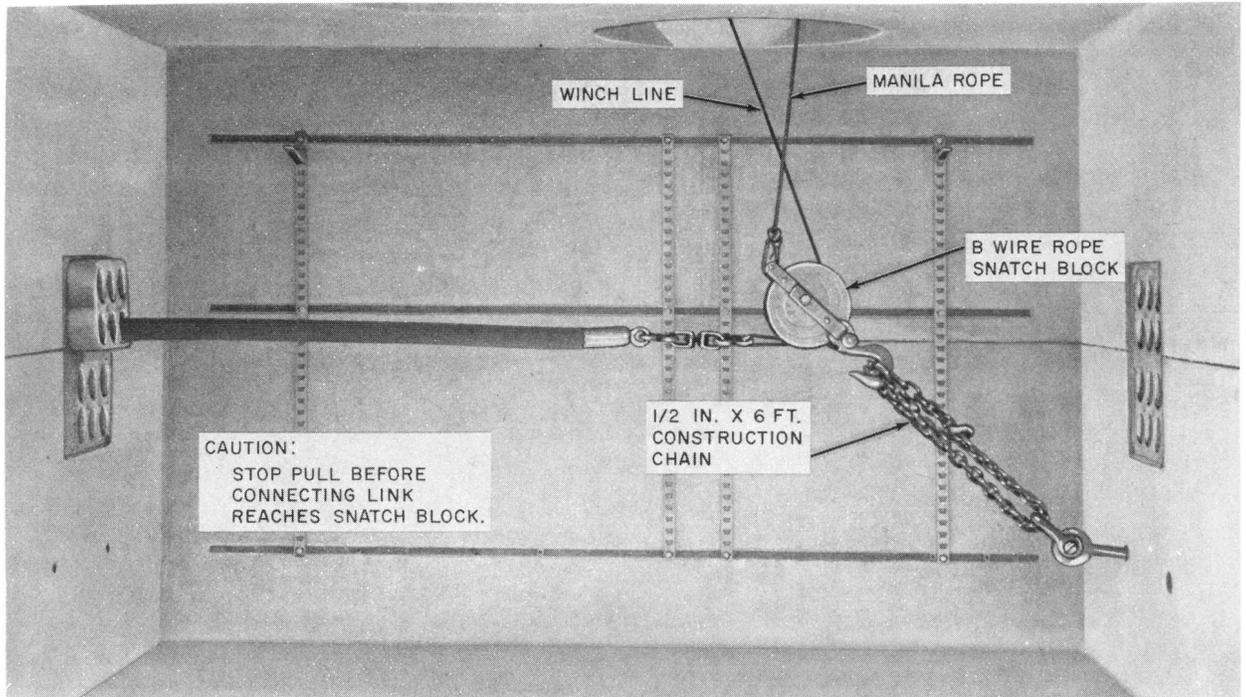
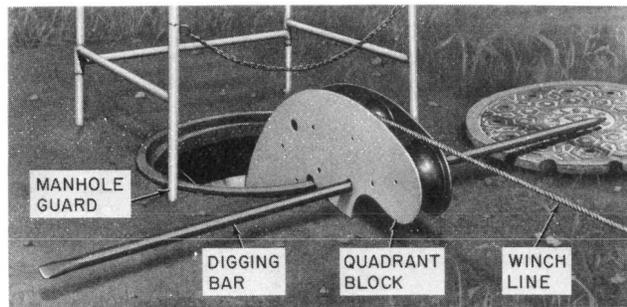

Fig. 9—Pulling Arrangement Using B Wire Rope Snatch Block and Construction Chain
Fig. 10—Pulling Arrangement Using Quadrant Block on Manhole Frame
9.02 If the manhole is equipped with pulling-in irons, use a B wire rope snatch block and construction chain at the pulling end as shown in Fig. 9. A B quadrant block or B cable sheave with B cable sheave shackle may be used in place of the wire rope snatch block. When it is not possible to position the winch truck adjacent to the manhole, a B quadrant block or C manhole sheave should be used at the top of the manhole as shown in Fig. 10 and 11, respectively.